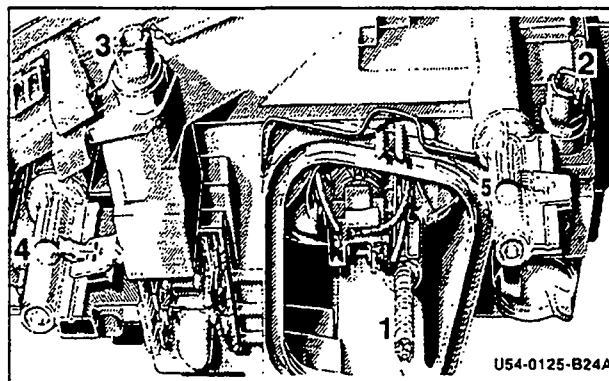

Figure 3 Model 140 Coupé
Turn adjustment screw (2) until air bubble in the level (1) is centered on the "0" mark (Figure 3).
Turn adjustment screw (3) until pointers in sight glasses (4 and 5) show the same value (Figure 3).